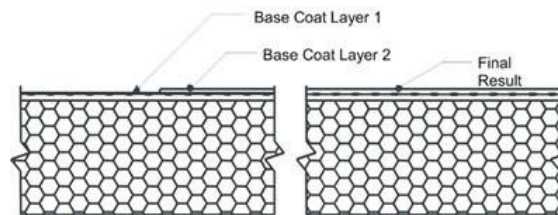

Fig. 25
- a. The base coat shall be applied such that the resulting overall minimum base coat thickness is sufficient to fully embed the reinforcing mesh. The recommended method is to apply the base coat in two (2) passes.
- 3) Allow the base coat mixture to take up until firm to the touch. Trowel a second tight coat of the base coat mixture over the first coat to fully cover the reinforcing mesh - Figure 25. The result should be such that the reinforcing mesh is approximately centered within the base coat thickness. Do not allow the first pass to completely dry prior to the second pass application or an excessive amount of base coat mixture will be necessary to fully coat the wall surface.